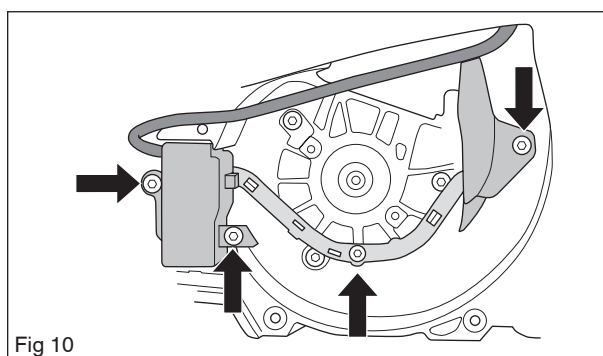

Fig 10
5. Unscrew the air nozzle to replace the ignition module. Loosen the screws on the ignition module. See figure 10.
3. Position the cable channel as outlined in figure 10. **NOTE!** Take care that the cable channel is positioned correctly under the ignition module so that the cables are not crushed.